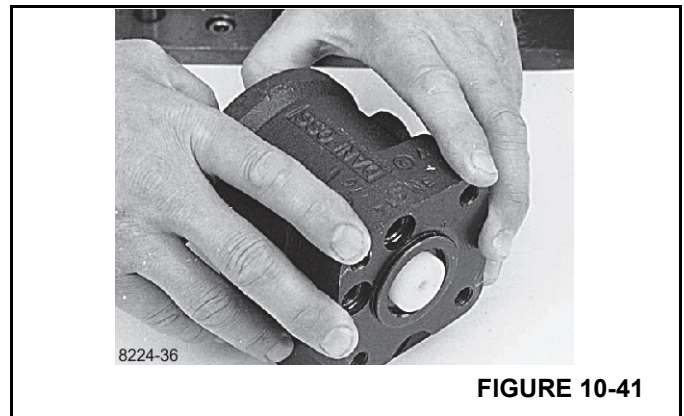

FIGURE 10-41
- 15. The spool assembly will push out the assembly tool guide. The O-ring and kin-ring/roto Glyd are now in position (Figure 10-41).